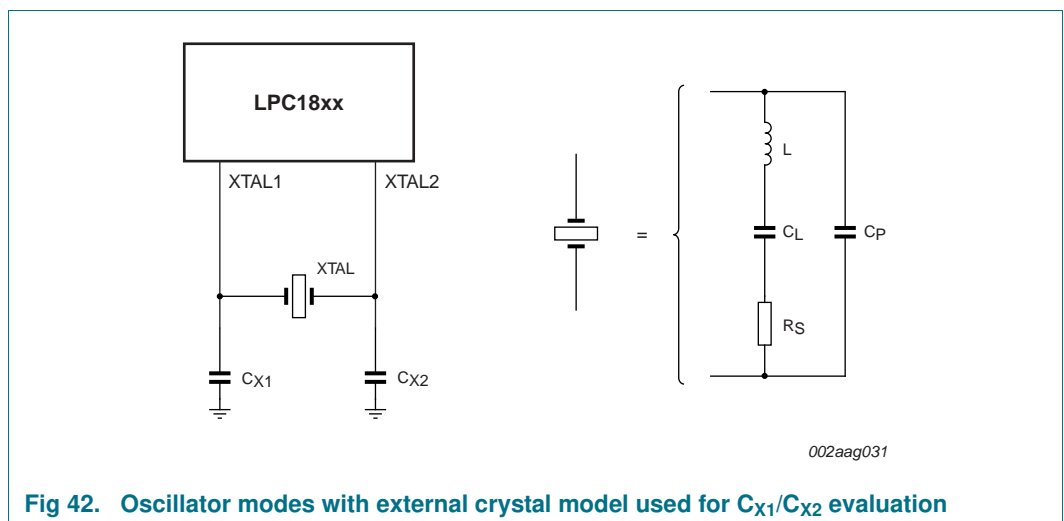

Fig 42. Oscillator modes with external crystal model used for C_{X1}/C_{X2} evaluation
- External components and models used in oscillation mode are shown in Figure 42, and in Table 38 and Table 39. Since the feedback resistance is integrated on chip, only a crystal and the capacitances CX1 and CX2 need to be connected externally in case of fundamental mode oscillation (L, CL and RS represent the fundamental frequency). Capacitance C_P in Figure 42 represents the parallel package capacitance and must not be larger than 7 pF. Parameters FC, CL, RS and CP are supplied by the crystal manufacturer.